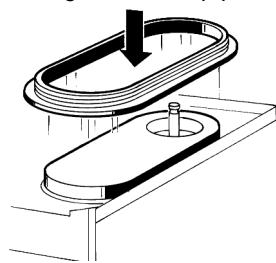

figure 7
- Fit the bowl gasket to the evaporator. Note: the largest brim of the gasket must face against the drip plate (see figure 7).